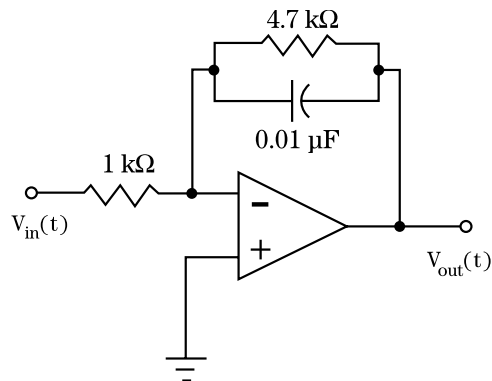

Figure 1
Write a voltage transfer function $T(s)$ for the circuit of Fig. 1. Use the transfer function for this circuit to construct a plot of the gain versus frequency. Use a CCA program to analyze the frequency response for the circuit of Fig. 1. Plot the gain response and tape the print-out into your lab journal.
- a. Build the circuit of Fig. 1 on a protoboard.